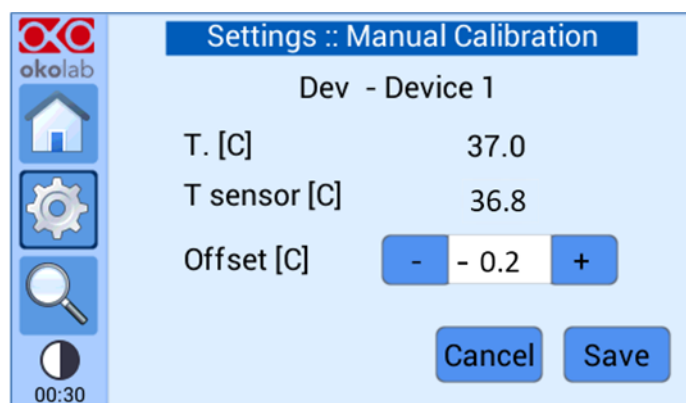

Figure 40. Manual Calibration. How to introduce the offset value
- 3 Insert the offset value clicking on + or - on the *Offset* tab as shown in Figure 40 to adjust the Device offset value and press on *Save*.
**Tip** ► Okolab recommends starting with an offset value corresponding to the difference between the set point temperature and the actual temperature measured by the T Sensor. In Figure 40, the desired temperature is 37.0 °C while the sensor reading states 36.8 °C, hence, in this case the offset to be applied is -0.2 °C.  $\text{Temperature offset} = \text{Actual} - \text{Setpoint}$